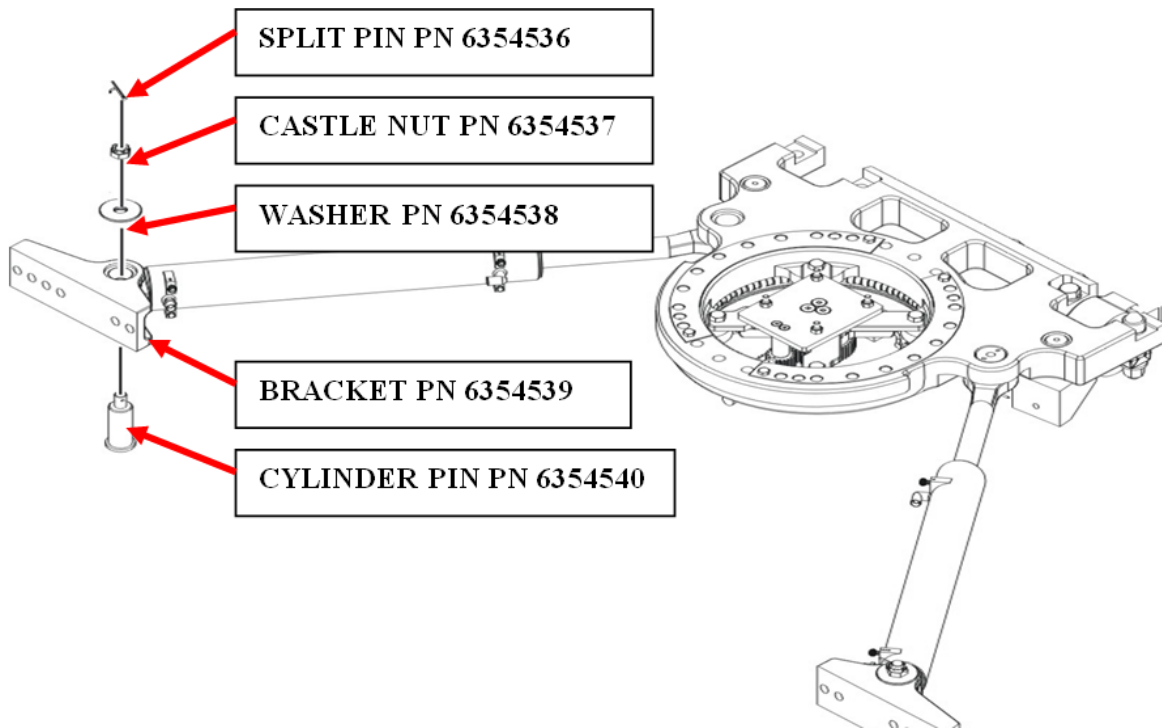

Figure 7: Cylinder Bracket Assembly
2. Disconnect the end of the cylinders by removing the cotter/split pin and hardware. Store hardware for reinstallation. Refer to Figure 7.
4. Remove the cylinder brackets NF P/N: 6354539. Store brackets for reinstallation. Refer to Figure 7.